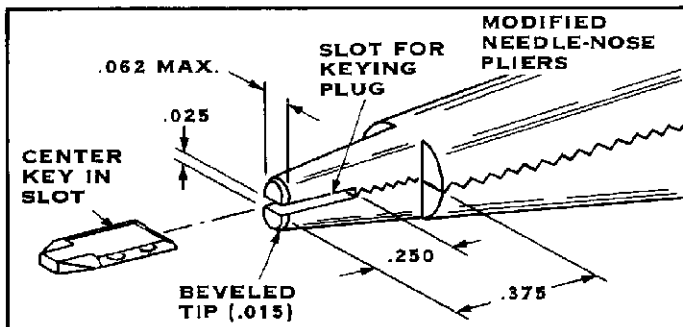

FIGURE 2
We recommend a modified pair of Needle-Nose Pliers for inserting and extracting these Keying Plugs. See Figure 2 for the recommended modifications. Note that AMP Incorporated does not market or manufacture this tool.
1. Center the Keying Plug in the Tip of the modified Needle-Nose Pliers as indicated in Figure 2.